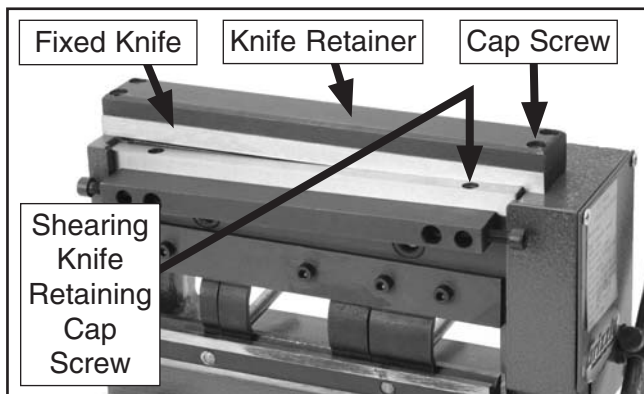

Figure 36. Shear components.
2. Using a 4mm hex wrench, remove the four knife retainer cap screws and then the knife retainer and the fixed knife (**Figure 36**).
3. Using a 3mm hex wrench, remove the two shearing knife retaining cap screws (**Figure 36**).